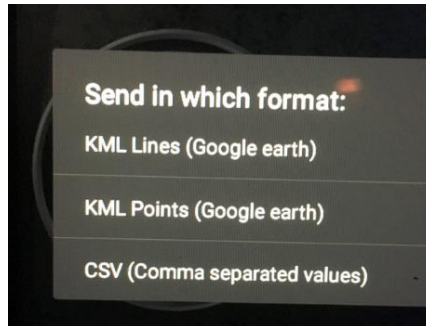

Figure 18, Comma Separated Values
2. Select the **CSV (Comma Separated Values)** format (See Figure 18).